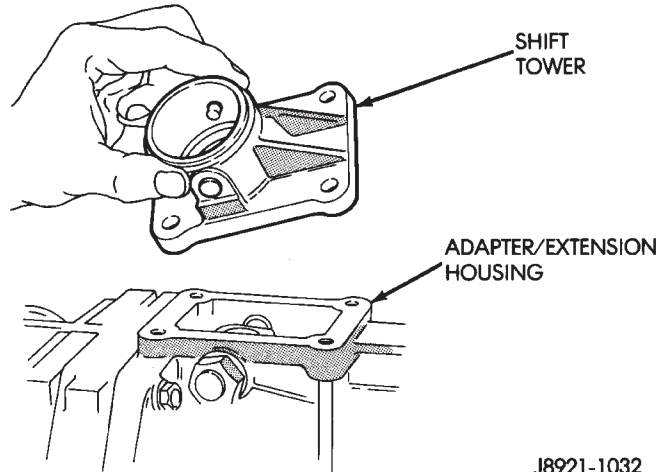
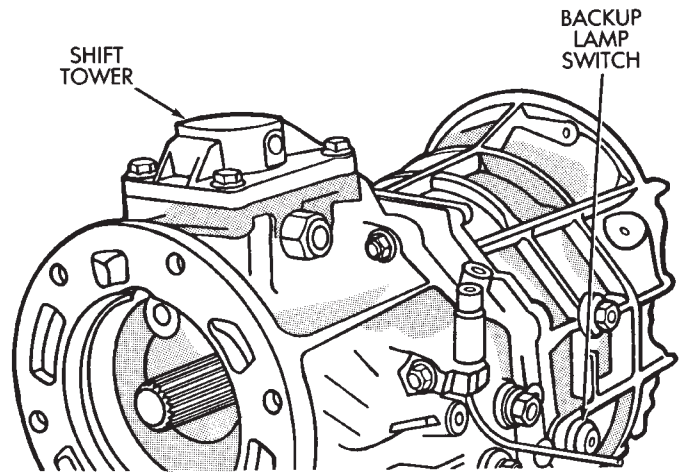

Fig. 47 Install Shift Tower
Fig. 48 Install Backup Lamp Switch
- (19) Install shift tower gasket onto shift tower.
- (20) Install the shift tower oil deflector and gasket on the adapter or extension housing.
- (21) Install shift tower onto transmission case (Fig. 47).
- (22) Install bolts to hold shift tower to transmission case. Tighten tower bolts to 18 N·m (13 ft. lbs.) torque.
- (23) Install new metal o-ring onto the backup lamp switch.
- (24) Install backup lamp switch (Fig. 48). Tighten switch to 44 N·m (32.5 ft. lbs.) torque.
- (25) Install new seal in adapter/extension housing.
- (26) Install vehicle speed sensor, if necessary.